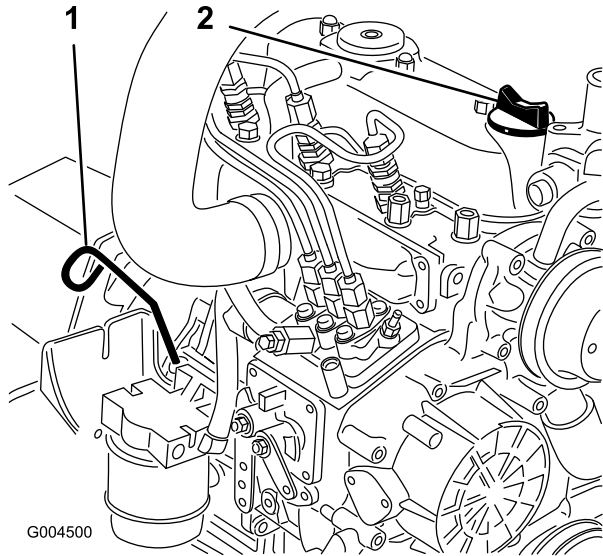

Figure 43
2. Remove the dipstick (Figure 43), wipe it clean, and install the dipstick. Remove the dipstick and check the oil level.
3. If the oil level is below the Full mark, remove the fill cap (Figure 43) and add oil until the level reaches the Full mark on the dipstick.